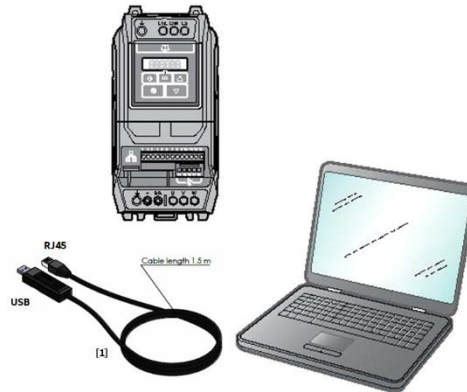

Figure 46: Isolated USB 2.0 to RS-485 Connection Drive to Computer
- b) via a serial port (Figure 46)
- a) Via a USB to RS485 adapter (IC855-CABL-USB485), as shown in Figure 46. Connect the USB connector to the PC, and insert the jack end into the RS-485 port of the drive. This connection provides electrical isolation between the PC and the drive. Note that some PCs may not be able to supply sufficient power to the USB port. If that is the case, a powered USB hub will also be required.